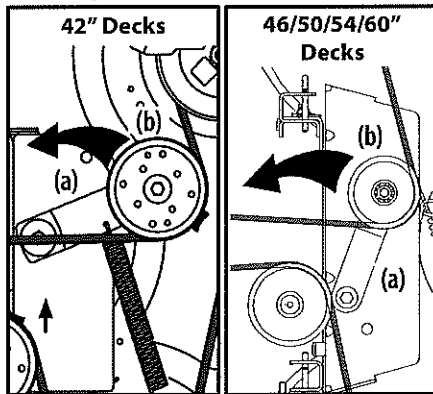

Figure 40
- a. Using the deck lift handle or the deck lift pedal and knob, raise the deck to the position that provides the most horizontal run of the belt between the deck idler pulleys and the PTO pulley on the bottom of the engine. See Figure 40.
- b. Working from the middle of the tractor, pivot the idler bracket (a) and movable idler pulley (b) rearward just far enough to lift the belt up and over the spindle pulley. See Figure 40.